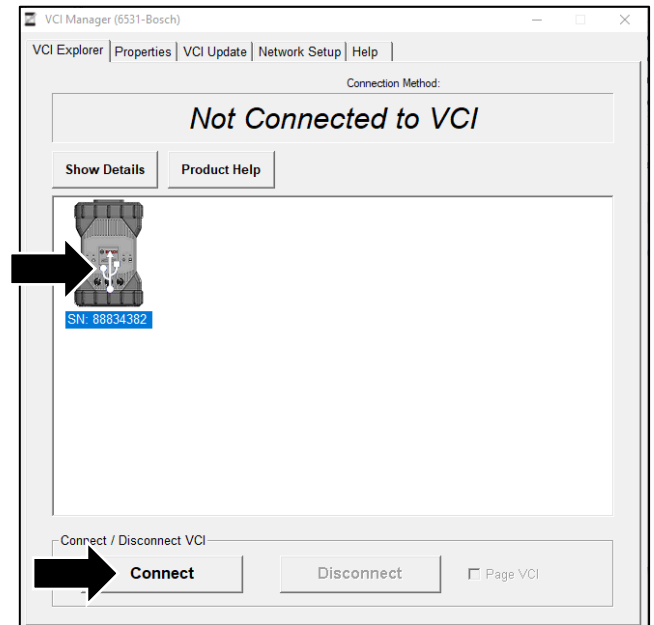

Figure 8
9. Click the “VCI Manager” icon on your desktop then click “Connect” (refer to Figure 8).